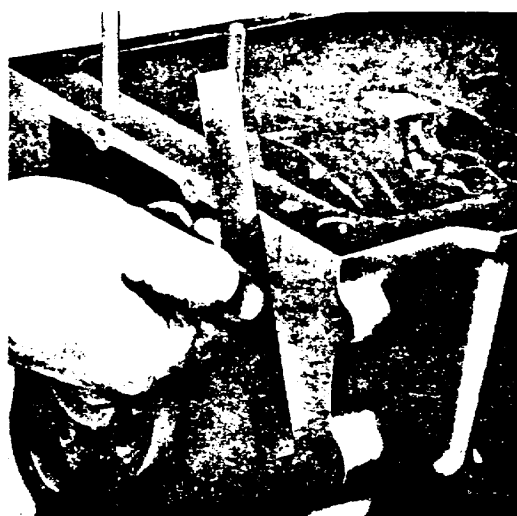

*Fig. H.8.
3. With the thumb or Linger press the remainder of the strip into the groove, working from tile centre, then use any convenient round bar to further bed in the strip by rolling and pressing its inner diameter as shown in Fig. H.8. This